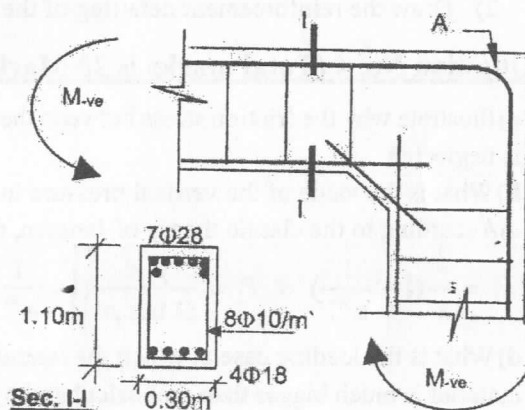

Fig. 2
- Fig. 2** shows insufficient reinforcement of closed beam-to-column joint. It is required to carry out a complete design (design + drawing) the lack reinforcement at the joint zone. Why the main reinforcement must be curved at the corner marked A.
- Design a hinged base for the same column shown in **Fig. 2** (dowels + neoprene plate + reinforcement) subjected to normal force of 1200 kN and horizontal force of 120 kN. State the advantage of neoprene plate under loading.
- For the joint in earthquake zone shown in **Fig. 3**, it is required to: calculate the shear capacity of the column shown in Fig. 2 if the longitudinal steel is 6 D 18, and floor height is 3.0 m. calculate the maximum shear acting in the joint if the beams tension steel is 4 D 16 and the compression steel is 2 D 12, Then calculate the joint shear capacity, and the steel needed in the joint according to ECP-203/2018 code. Draw the reinforcement details.